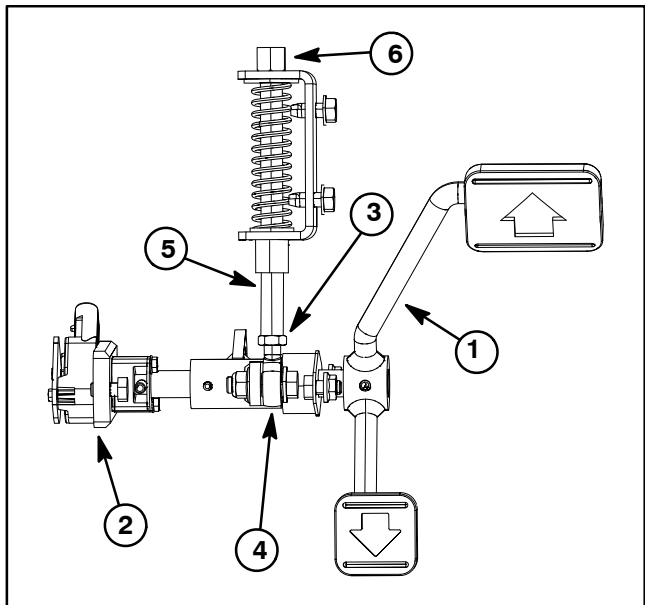

Figure 19
The traction pedal includes a neutral assembly that is used to adjust the traction neutral position (Fig. 19). Traction pedal adjustment may be necessary to make sure that traction pedal movement provides the correct full reverse and full forward positions for the traction pedal position sensor. The InfoCenter display can be used to check traction pedal adjustment using the following procedure.
5. If voltage range from full reverse to full forward is incorrect, adjustment of the spring shaft and rod end bearing is necessary (Fig. 19).